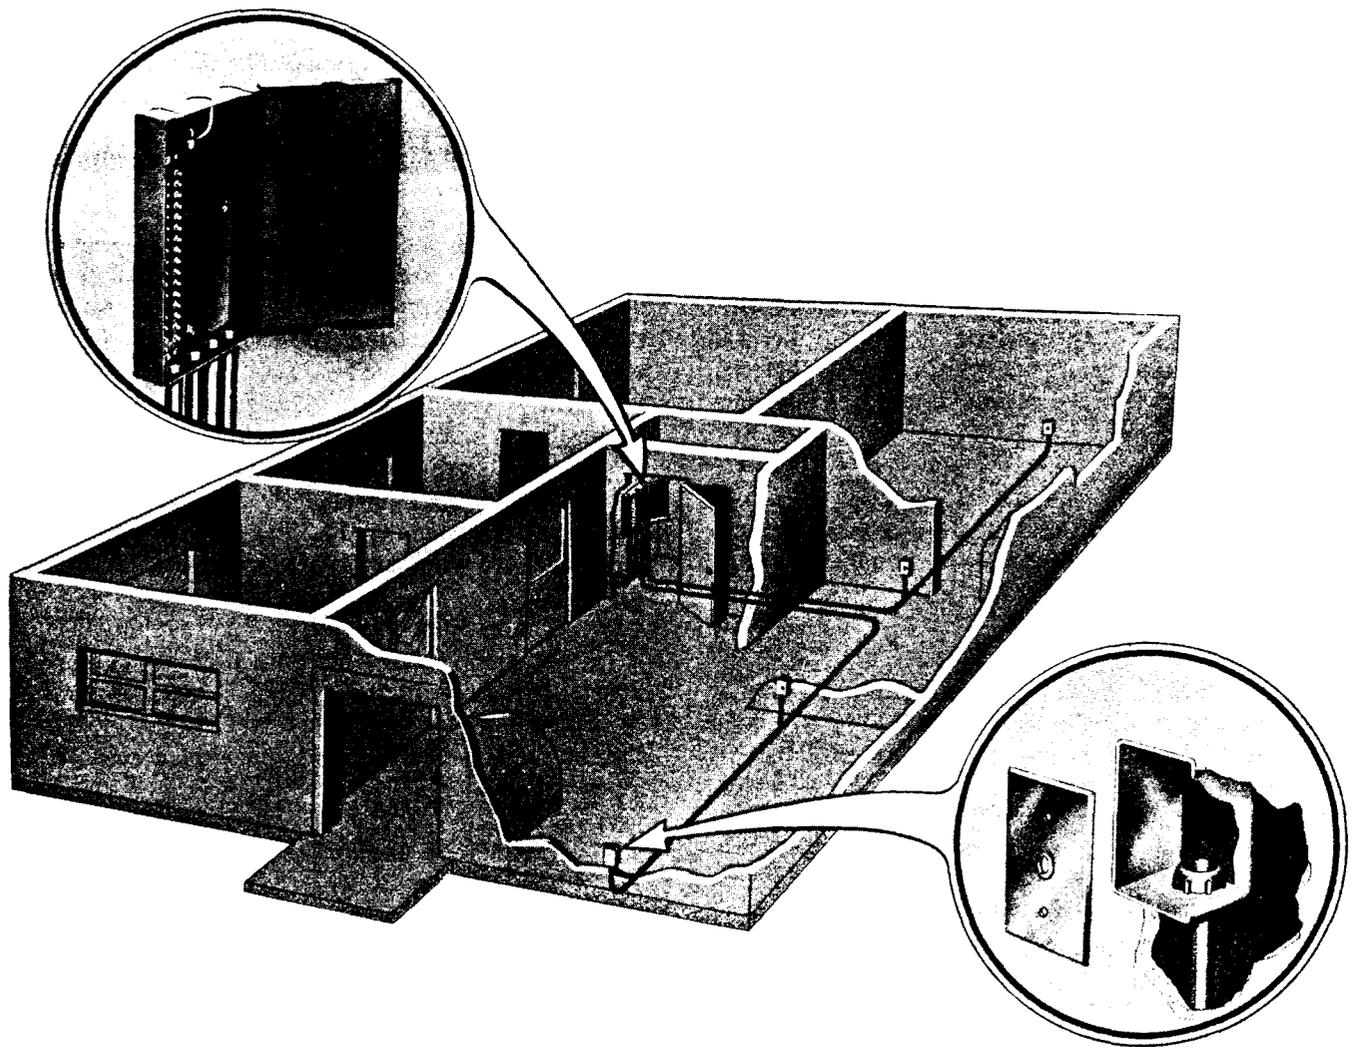

Fig. 1—Typical Underfloor-from-Wall Conduit System
UNDERFLOOR-FROM-WALL CONDUIT (Fig. 1).
- 5.17** Standard electrical outlet boxes can be used to house 47-type connecting blocks to provide for single stations at above the floor or baseboard outlets of underfloor-from-wall conduit systems similar to Fig. 1.